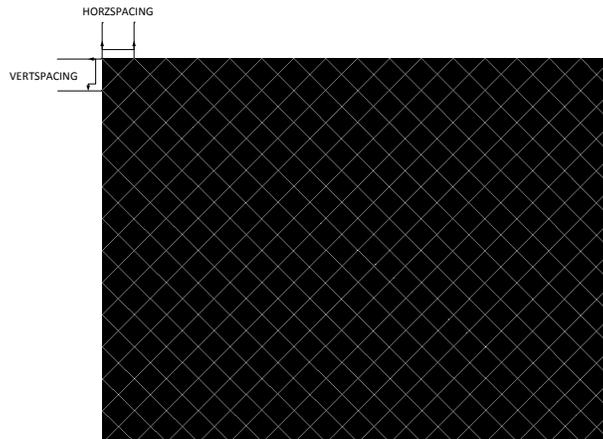

Figure 8. Example of Diagonal Lines Test Pattern
12. As noted in Table 4, the colors for the diagonal lines pattern are specified using both the foreground and background colors. The foreground color is used for the diagonal lines, and the background color is used for the space between the lines. As noted in Table 5, the user specifies the horizontal and vertical line spacing. The line width is always one pixel. The user determines the line spacing for each resolution display. Both horizontal and vertical line spacing must use the same value, and are limited to values of 3, 7, 15, 31, 63, 127, and 255. Invalid values result in a communication error (invalid command parameter). An example of a diagonal lines pattern is shown in Figure 8.